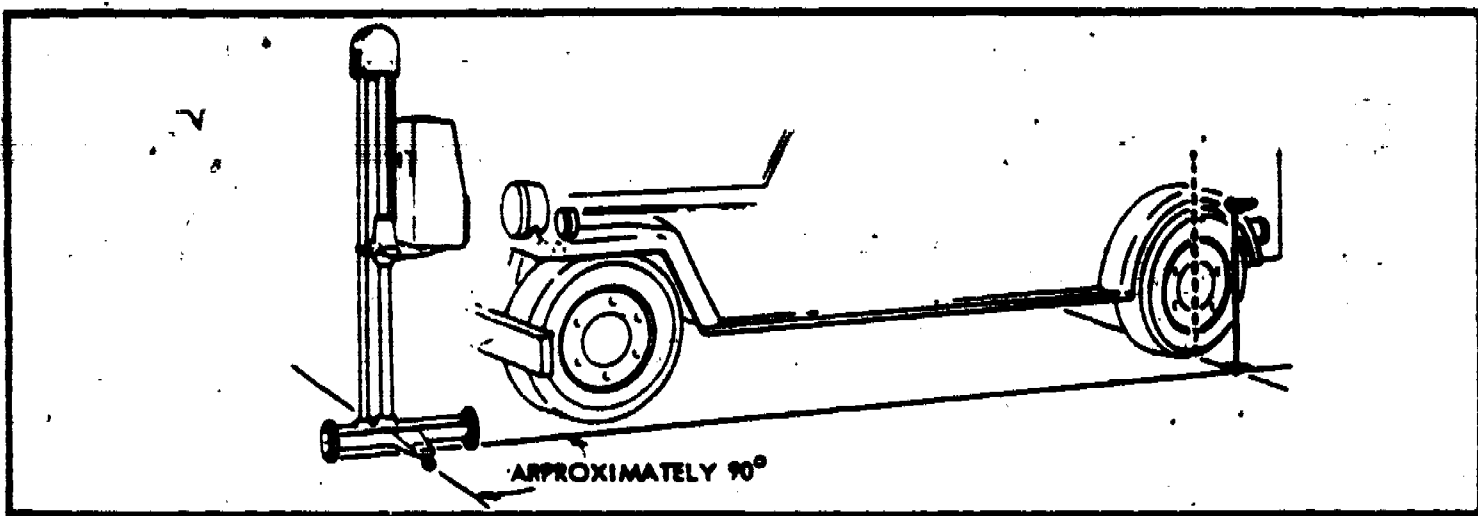

Figure 14. Using Flashlight to Check Floor Level.
d. Remove the calibrating stand to a position opposite the rear fender of the vehicle at about the same distance to the side of the vehicle as the tester, as shown in figure 14.